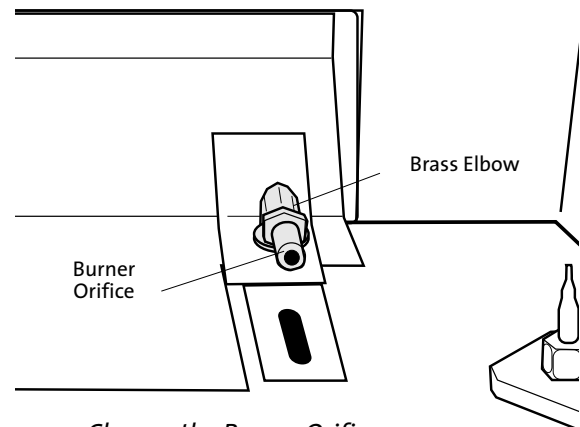

Figure 14. Change the Burner Orifice.
8. Change the Burner Orifice. Using a 1/4" open ended wrench or deep-well socket, remove the burner orifice from its brass elbow housing and replace with the appropriate orifice supplied in the kit. See fig. 14.
10. Replace the Burner Plate. Engage the burner tube with the Air Shutter assembly as in fig. 14. Be sure the burner is securely engaged with the two support brackets at the front of the firebox and push the plate back toward the rear of the firebox.